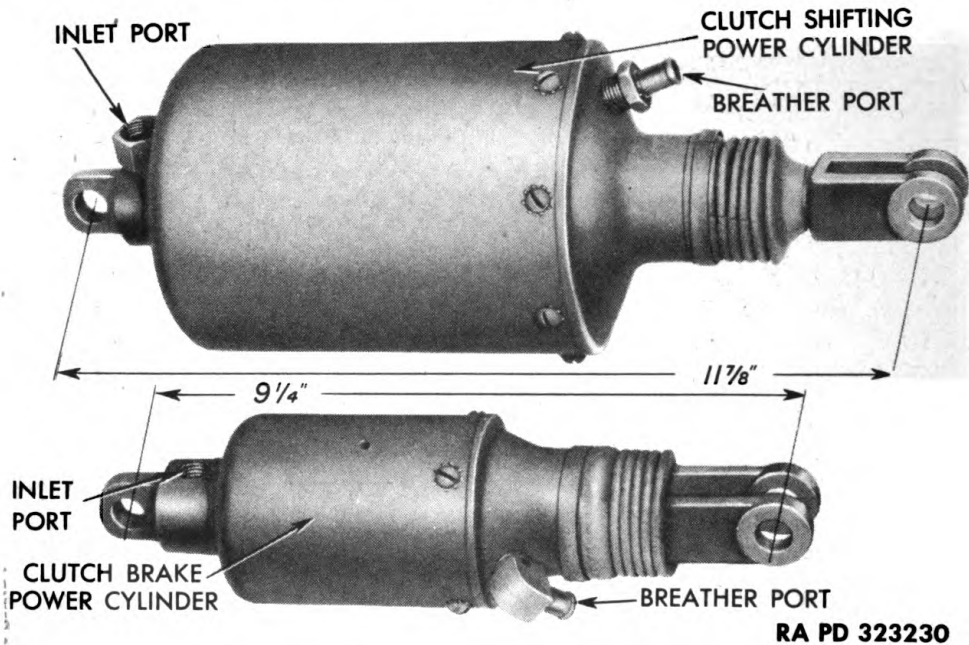

Figure 235 — Clutch Shifting and Clutch Brake Power Cylinder
a. Description (figs. 235 and 236).
(1) There are two $4\frac{3}{8}$ -inch diameter by $3\frac{7}{8}$ -inch stroke power cylinders used to shift the clutch, and one $2\frac{5}{8}$ -inch diameter with $1\frac{5}{8}$ -inch stroke power cylinder used to actuate the clutch brake. These three power cylinders are identical in construction, with the exception that the clutch shifting power cylinder has two removable bushings in the head, while the clutch brake power cylinder does not have bushings.
(2) The power cylinder consists of a cylindrical cup with an anchor welded to the center of its closed end. This anchor is drilled and tapped for an inlet air hose fitting. The open end of the cup is closed by a head which serves as the piston guide, and contains a tapped hole for a breather hose fitting. Inside the power cylinder is the piston with rod; the piston cup or sealing unit; the cup spreader and spring which holds the piston cup in proper position; the felt washer, which acts as an oiler and wiper for the inner surface of the cylinder; the retainer sleeves, which protect the felt washer; the piston
(1) **CLUTCH SHIFTING POWER CYLINDERS** (fig. 235). Turn yoke on piston rod until it measures $11\frac{7}{8}$ inches from center of pin holes in yoke to center of pin hole in anchor. Tighten lock nut securely against yoke when adjustment is correct. Piston and rod must be pushed all the way into cylinder when measurement is taken.